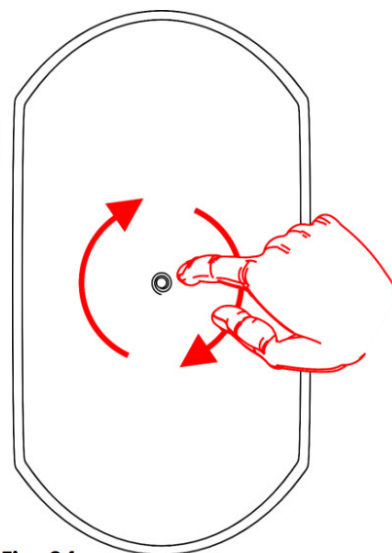

Fig. 24
2. On the inside of the speaker grill (01), press on the spring-loaded pin and move the rotatable logo
3. to the correct orientation (Fig. 24).
5. Install the speaker grill (01) on the device.